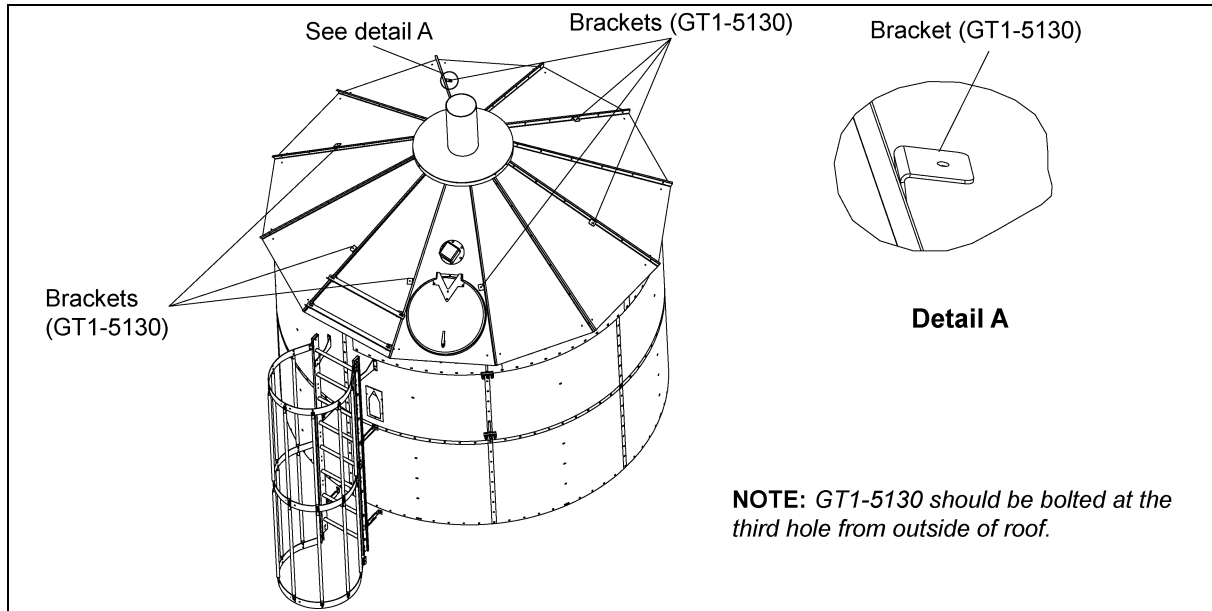

Figure 3M
1. Before installing the Peak Walk Around Assembly on the roof, assemble 7 ea. brackets (GT1-5130) on the roof sheet at the third hole from outside of the roof as shown in *Figure 3M*.